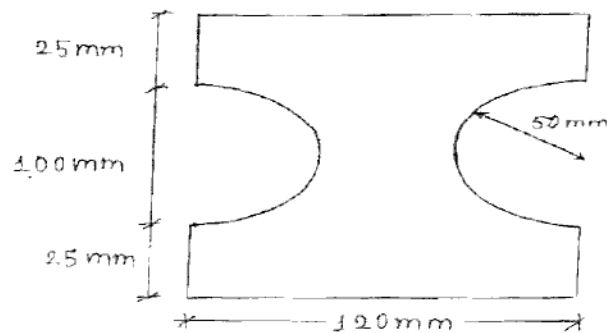

FIG. 8
10. FIG. 8 shows the cross-section of a cast iron Beam. Determine the moment of inertia of the section @ horizontal and vertical axes passing through the centroid of the section.